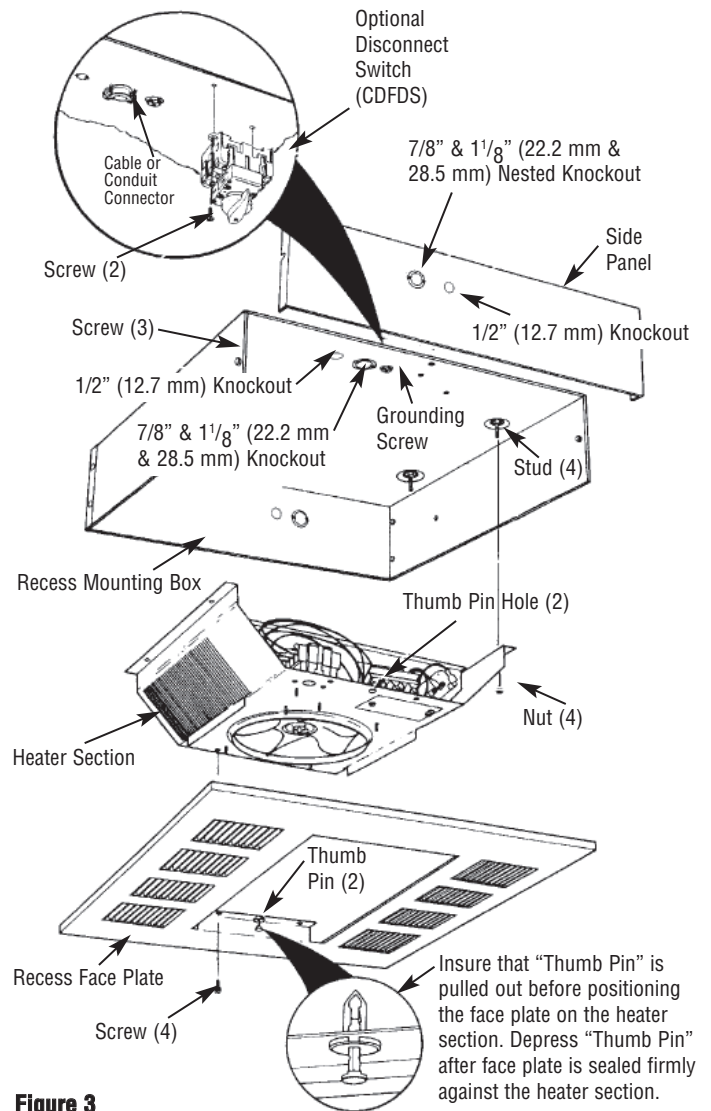

Figure 3
Installation of Recess Mounted Heaters in T-Bar Ceiling (See Figures 3 and 4)
1. Remove Recess Mounted Heater assembly from carton. Heater assembly includes (1) recess mounting box, (1) heater, (1) recess mount face plate and (1) set of discharge grilles, Figure 3.
2. Remove recess mount box from assembly. Remove four (4) nuts from studs so heater can be removed from recess mounting box. Do not discard nuts since these will be used in Step 9 to mount heater section back on to the recess mounting box.
3. Remove three screws and the side of the recess mounting box to allow for easier wiring (Figure 3).
4. Remove one of the knockouts and install a cable or conduit connector (Figure 3).
5. Install the optional disconnect switch CDFDS (if required as shown in Figure 3). Refer to accessory installation manual for proper wiring.
8. Position the heater section over the studs in the recess mounting box (Figure 3).
9. Push the heater section onto the studs and securely tighten the four (4) nuts (removed from step 3) on the studs to secure the heater section to the recess mounting plate (Figure 3).
FAILURE TO INSTALL THE FOUR MOUNTING NUTS COULD RESULT IN THE HEATER FALLING (SEE FIGURE 3).
NOTE: Insure that the “thumb pin” in each end of the discharge grille opening is pulled outward to allow the body of the thumb pins to fit into the holes in the heater section (Figure 3).
FAILURE TO INSTALL THE FOUR SCREWS COULD ALLOW THE SURFACE WRAPPER TO FALL (SEE FIGURE 3).
12. Install and securely tighten four screws (supplied) to secure the recess face plate to the heater section (Figure 3).